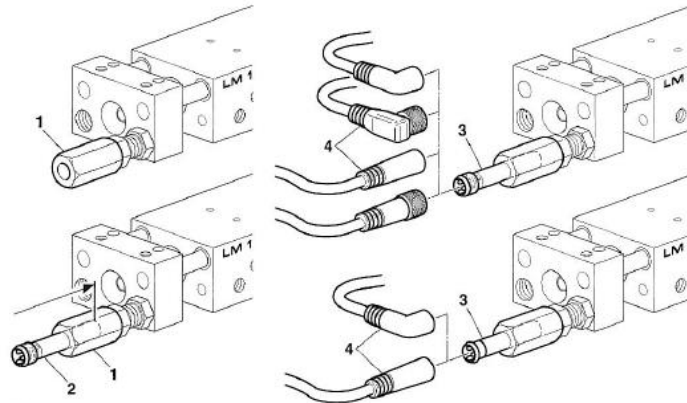

Fig. 14 Mounting of the proximity switch 6.5 mm
1. Screw the proximity switch holder (Fig. 14, 1) on the stop screw.
2. Insert the proximity switch (Fig. 14, 2) into the holder up to the stop.
3. Tighten the proximity switch holder (Fig. 14, 1) slightly.
4. Fit the plug (Fig. 14, 4).